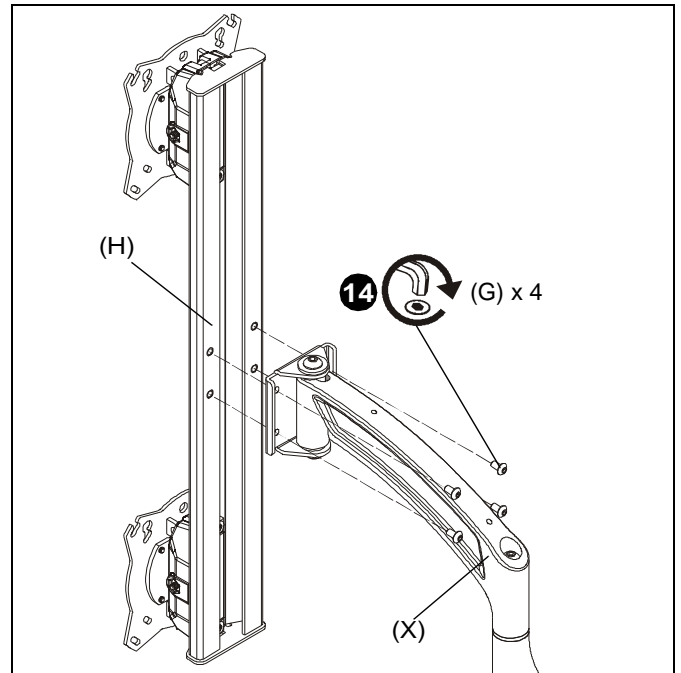

Figure 7
14. Use four #10-24 x 1/2" button head cap screws (G) to secure head assembly (H) to arm assembly (X). (See Figure 7)